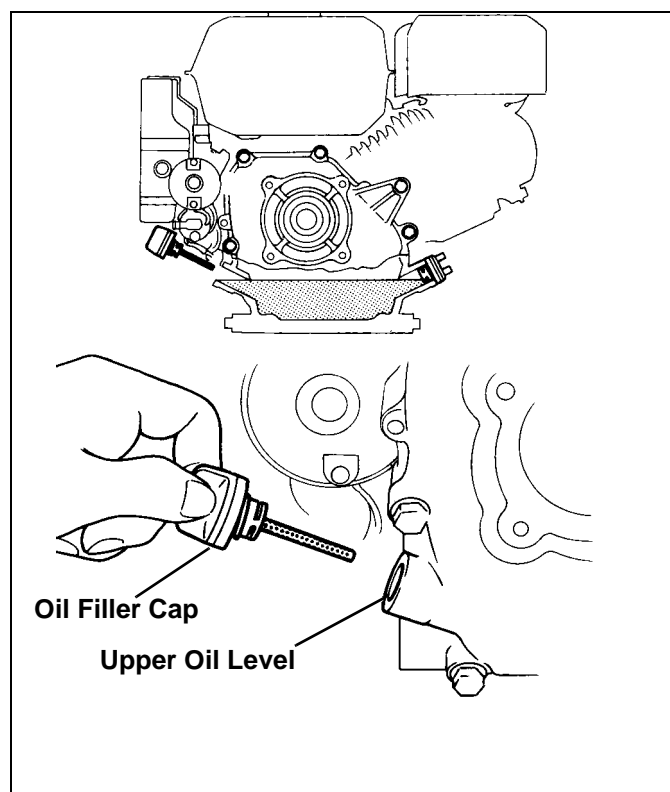

Figure 11A
6. Add engine oil until oil level is at full level. **See Figure 11A.**